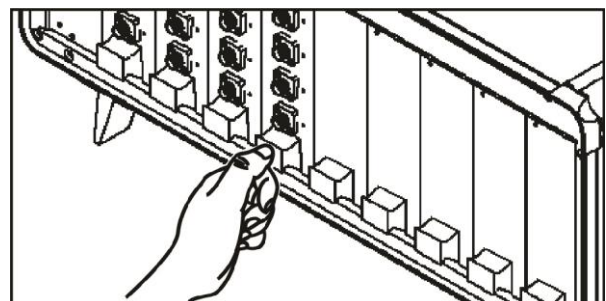

Figure 16 – Press down on the Release Latch
5. Press downward on the *release latch* to unseat the IQS-2800 module from the back connector as shown in Figure 16.